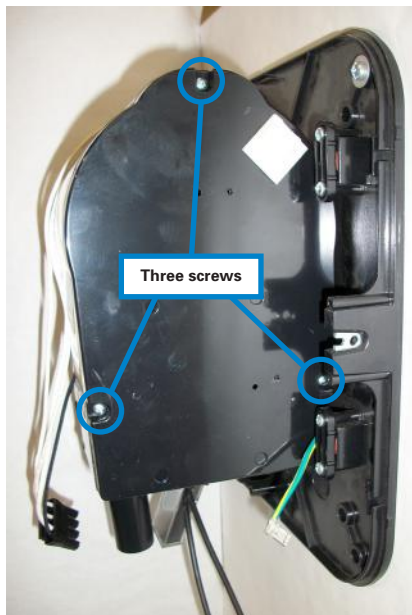

Figure 3
3. Remove the three (3) screws attaching the air inlet cover and remove it from the dryer. Save all three of these screws for later use in Step 10. (Figure 3)